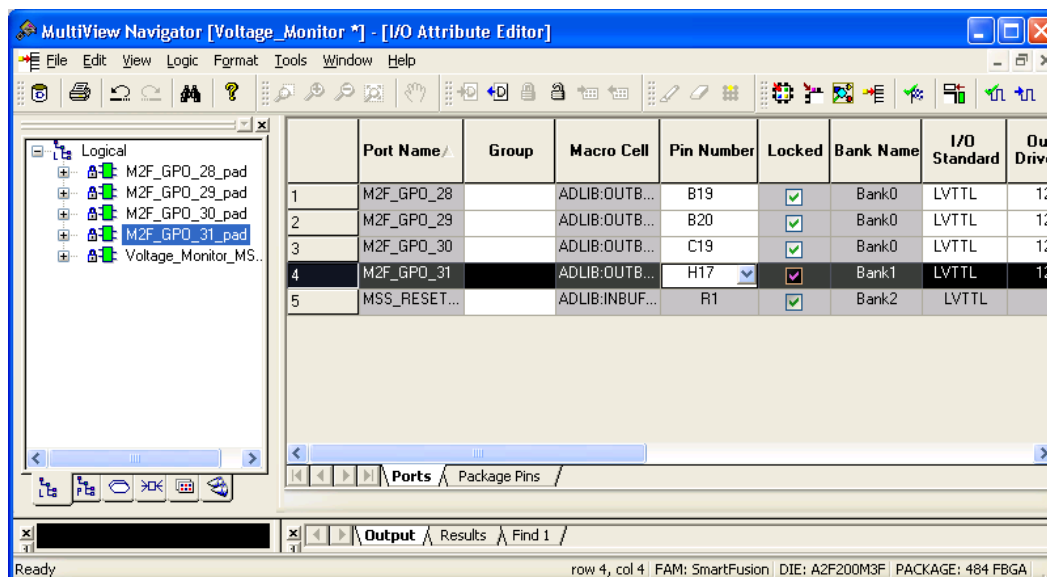

Figure 57 · MultiView Navigator GUI
2. Make the following pin assignments in **MultiView Navigator** window as shown in Figure 57 :